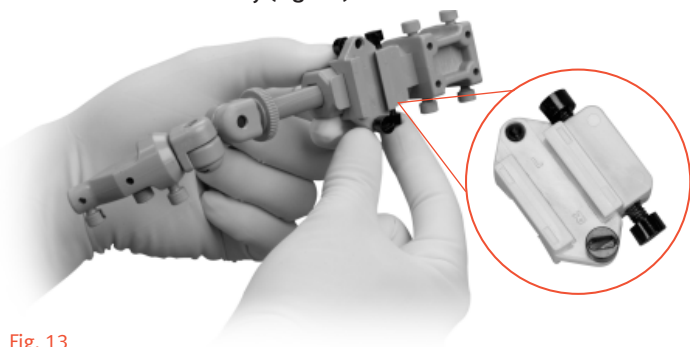

Fig. 13
**NOTE:** The arrow on the Dovetail Slide should be oriented towards the Radial Pins for correct assembly (Fig. 13).